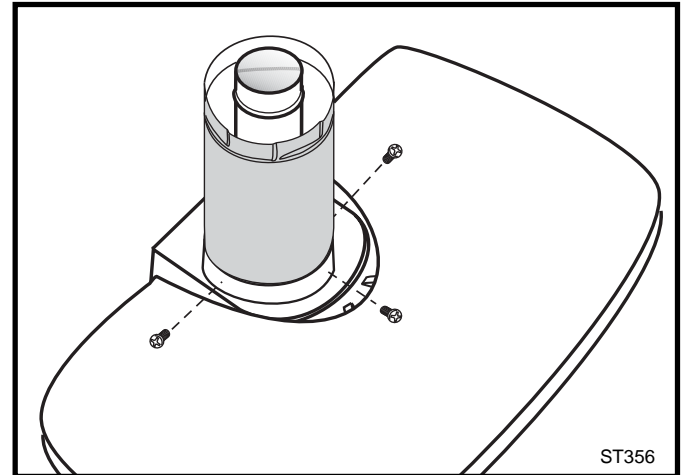

Fig. 27 Simpson Dura-Vent - install outer adapter pipe.
3. **Install the Outer Adapter Pipe.** Apply a 1/4" bead of cement around the outside surface, about one inch from the crimped end. (Fig. 27) Orient the vertical seam to the rear, and insert the crimped end of the outer pipe into the flue collar. Fasten with three sheet metal screws provided.